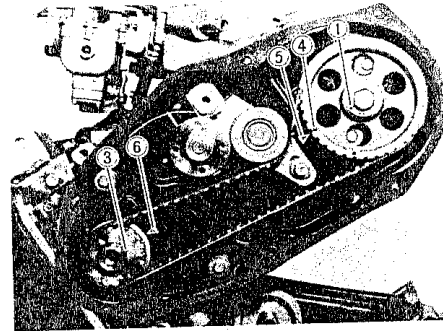

Fig. 3-142
5) After putting the belt, hook the spring on the bracket as shown in Fig. 3-142. The spring, with its own tension, adjusts the belt tension to the specified value.